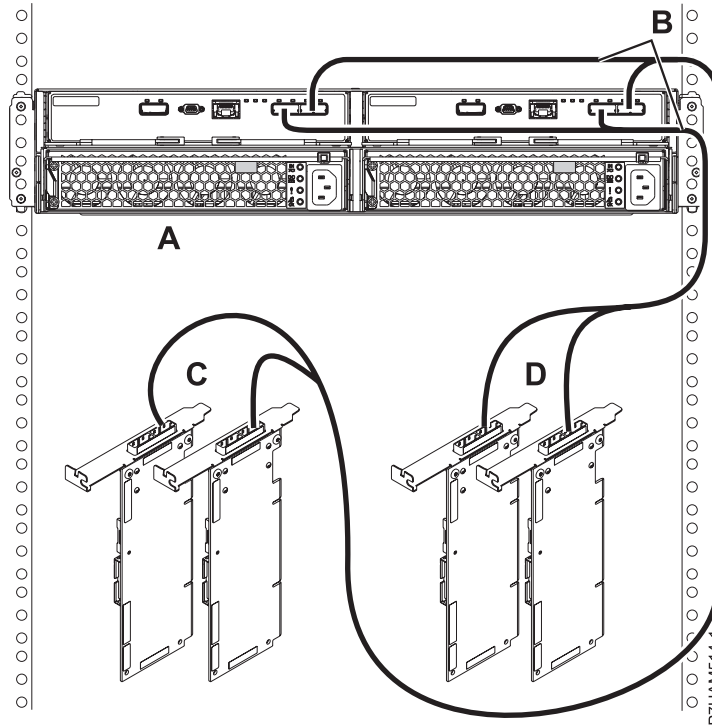

Figure 35. Mode 2 connection of one 58/87 disk drive enclosure by using X cables to two SAS adapter pairs
- p. Perform the mode 2 connection of one 58/87 disk drive enclosure (A) by using X cables (B) to two SAS adapter pairs as shown in Figure 35 on page 32.